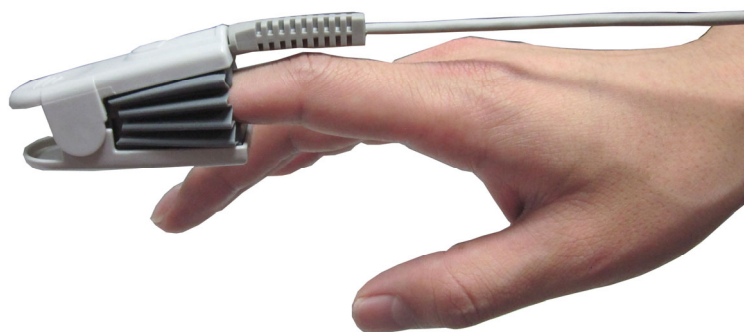

Figure 9-3 Placement of the Finger for SpO₂ Measuring
- 2) Place the forefinger, middle finger or third finger into the SpO₂ sensor, refer to figure 9-3.